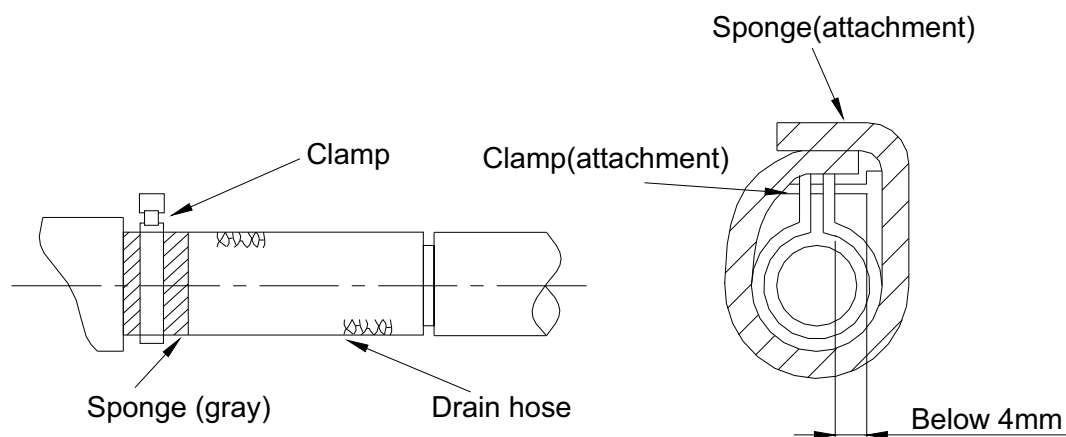

Figure 1-2-9
- ◆ Purchase general-purpose hard PVC pipe locally to be used as the drainage pipeline. When carrying out connection, place the end of the PVC pipeline into the drainage hole. Use flexible drainage tube and tighten it with thread loop. Never use adhesive to connect the drainage hole and the flexible drainage tube. (As shown in Figure 1-2-9)